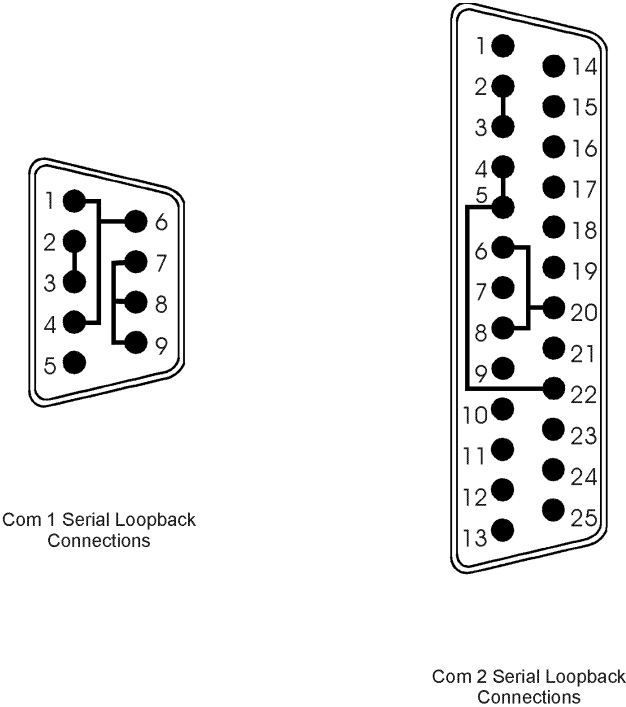

Figure 2-1. Serial Loopback Connections
- Two serial loopback test connectors (refer to Figure 2-1 for pinouts)
- 3. Connect the serial loopback connector(s) and the printer cable to the appropriate connectors and connect a PC/AT or PS/2 keyboard. Figure 2-1 illustrates the wiring necessary for the loopback connection.